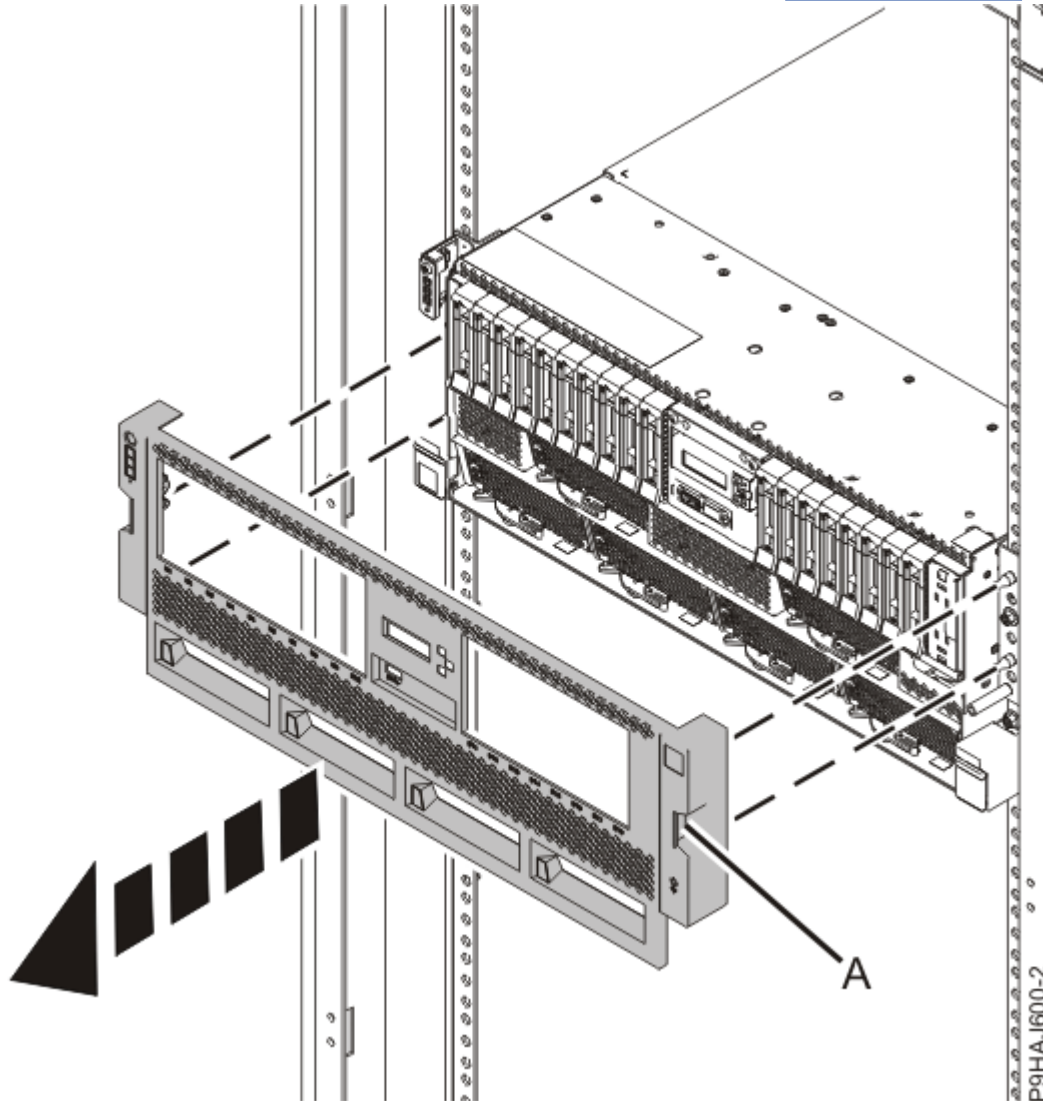

Figure 5. Removing the front cover
2. For a rack-mounted system, remove the front cover by pulling it away from the system. The cover has indentations (**A**) where you can hold it more easily. See Figure 5 on page 20.